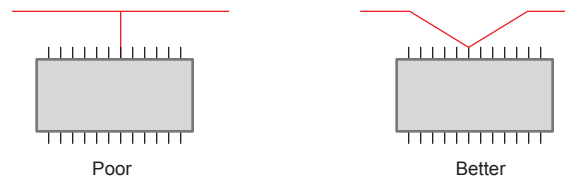

Figure 15. Avoid Right-Angle Traces
- Avoid routing traces at right angles to component pins or other traces. Right angle traces should be avoided as they are known to cause more radiation; this becomes more critical in high-speed designs (see Figure 15).